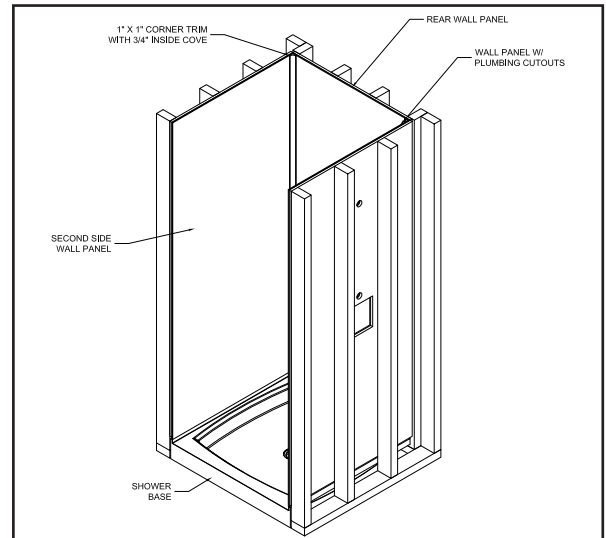

FIG. 3- SHOWER WALL SINGLE REAR PANEL INSTALLATION
7. When installing the back panel measure and cut the panel to fit in-between the two side panels leaving a 1/16" gap between the back panel and both side panels. Apply commercial grade urethane adhesive to the panel and install the panel leaving a 1/16" between the bottom edge of the panel and the top edge of the pan, leaving a 1/16" gap between the side edges and the side panels (**SEE FIG. 3**).